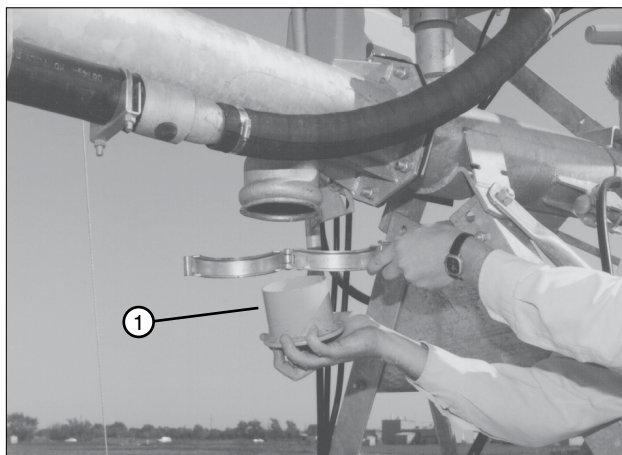

Figure 52-2 1. Sand Trap
3. Remove and clean the sand trap at the last regular drive unit. See figure 52-2.